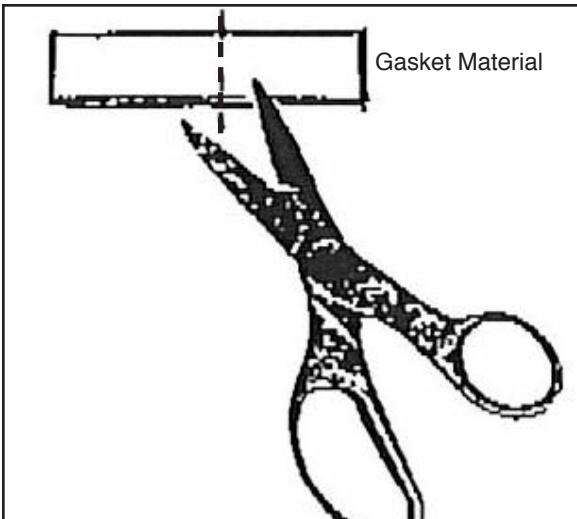

Figure 2
3. Cut each Gasket into 2 pieces. You will need 1 piece for each **half** of the Clamp. **(Sissors) Figure 2**